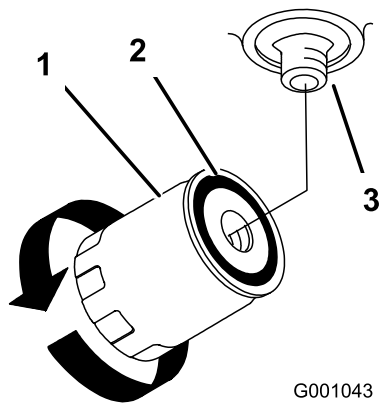

Figure 83
- Remove the old filter and wipe the filter adapter gasket surface clean (Figure 83).
- Install the replacement hydraulic filter onto the filter adapter. Turn the oil filter clockwise until the rubber gasket contacts the filter adapter, then tighten the filter an additional 1/2 turn (Figure 83).